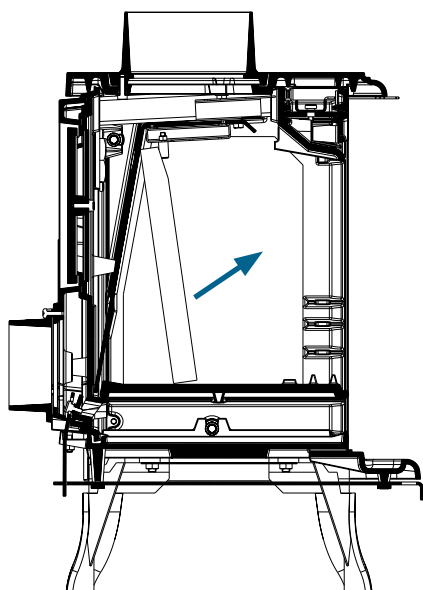

Figure 5a
- Remove the firebrick (fig. 5a)